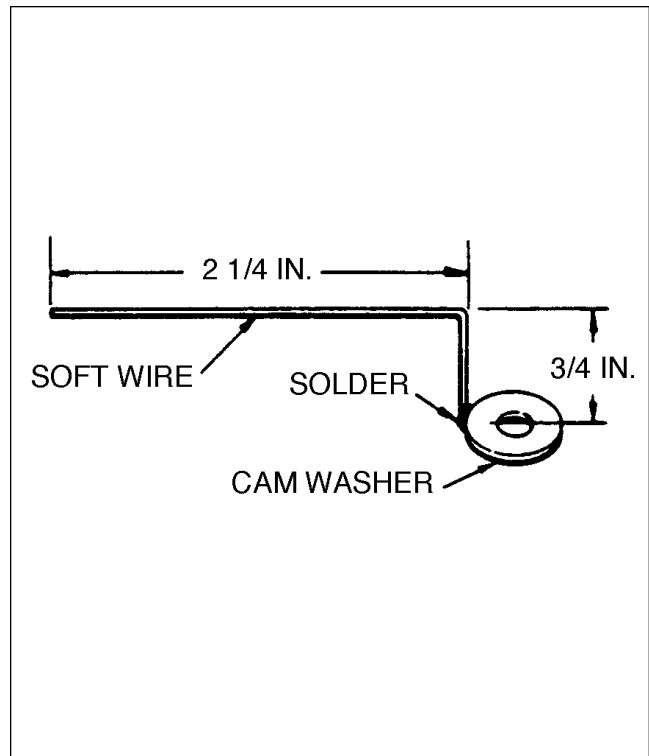

Figure 8-18. Timing Pointer
*A timing kit, including timing plate, etc, may be purchased through the engine or magneto manufacturer. A pointer may be formed as shown in Figure 8-18.*